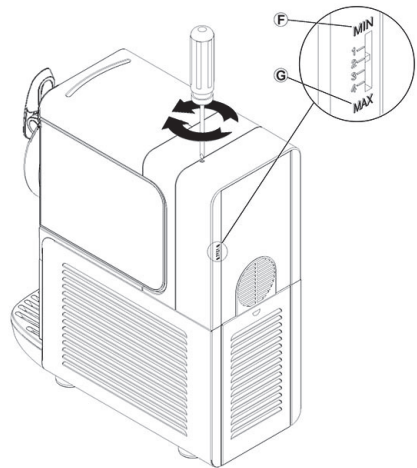

figure 2
- 2 Using keys (A) and (C), select the required operating mode for each container:
- Key (A) to cool the product without forming ice
- Key (C) to make crushed ice
- 1 **Density adjustment:** the optimal density of crushed ice is factory set. To adjust this density, use a screwdriver to turn the adjustment screw in each of the back walls of the dispenser (see figure 2):